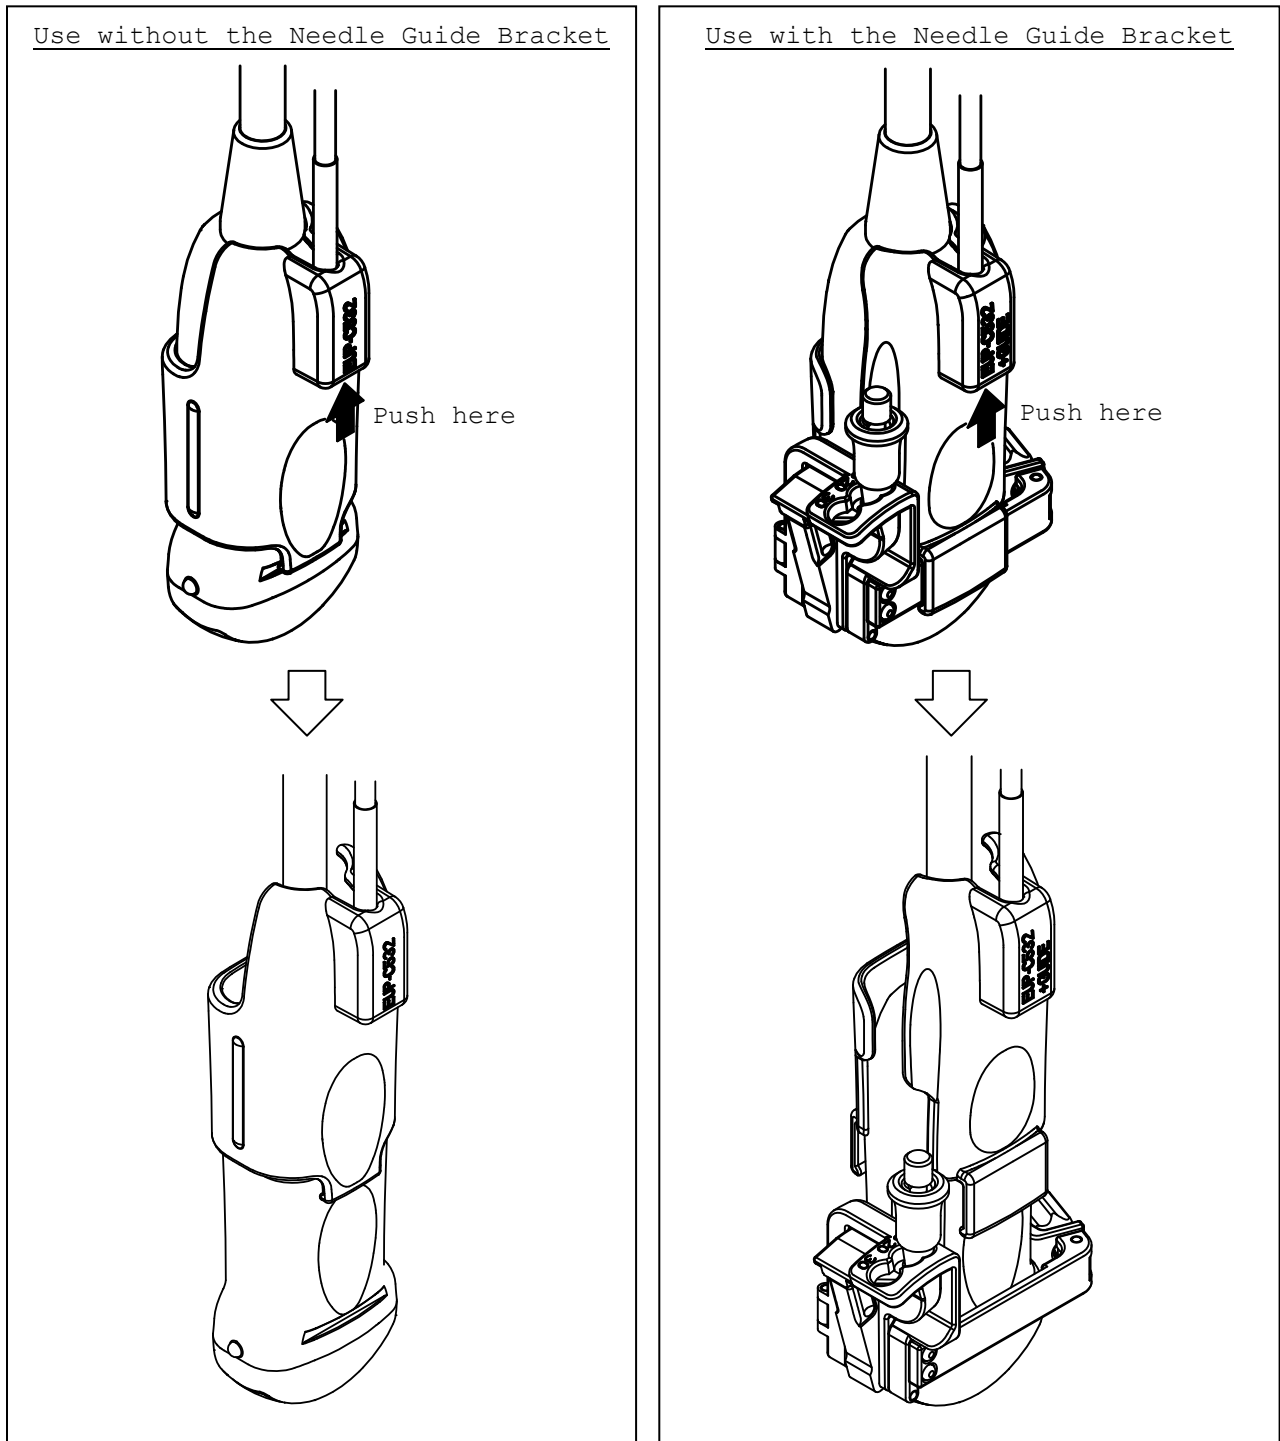

Fig.7 How to release the Magnetic Sensor Attachment
- a) Push the Magnetic sensor attachment and release it from the probe as shown in Fig.7.